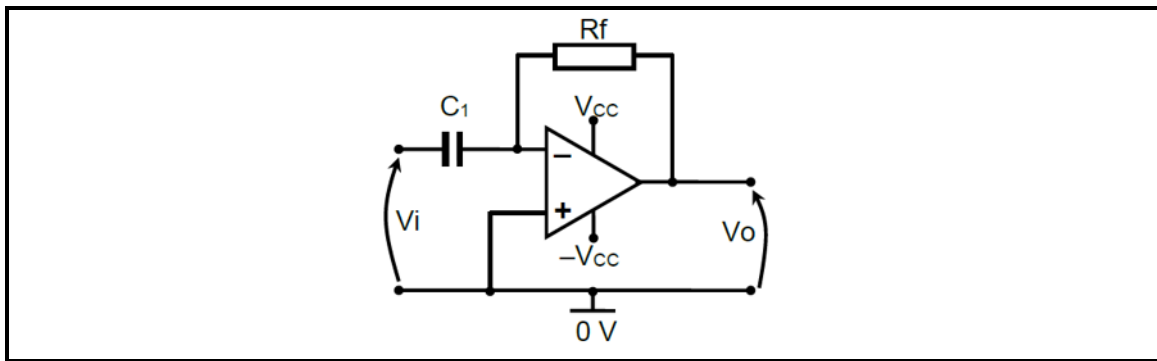

FIGURE 1.10
- D a pull-down resistor to prevent the voltage from floating. (1)
1.10 With reference to FIGURE 1.10 below, the function of C_1 is to ...